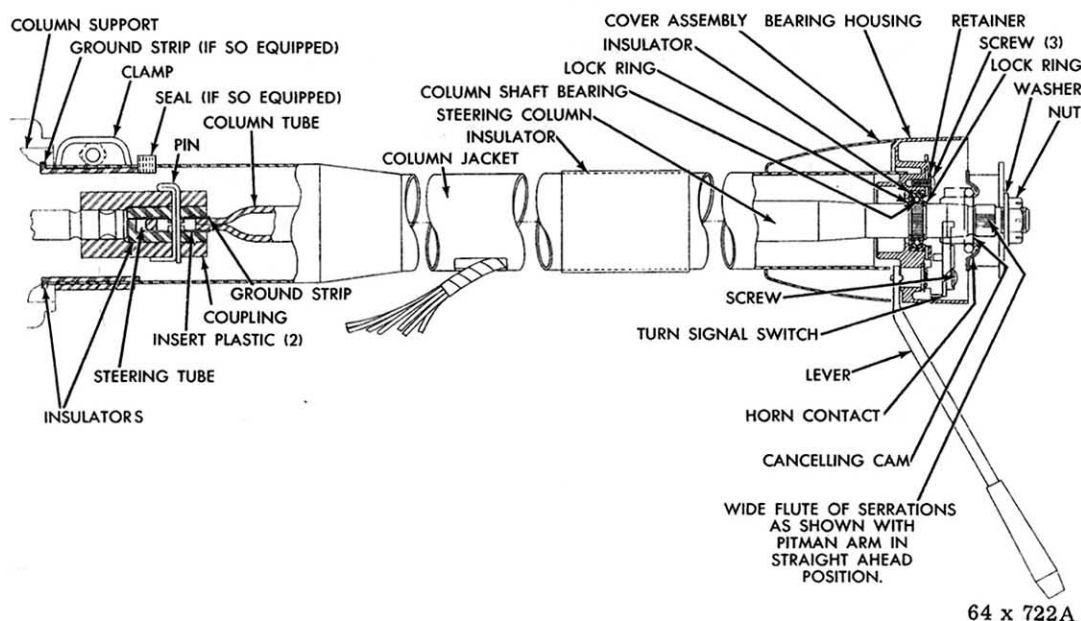

Fig. 14 - Steering Column Cross Section (Except adjustable steering wheel)
- (1) Disconnect the negative (ground) cable from the battery.
- (2) Compress and turn the horn button 1/4 turn counterclockwise to release the horn button from the retainer.
- (3) Disconnect the horn wire at the horn blowing switch.
- (4) Remove the three (3) screws and insulators attaching the horn ring and horn blowing switch to the steering column. Remove the horn ring and switch.
- (5) Loosen the steering wheel nut several turns and install the steering wheel puller Tool C-3428A and remove the steering wheel nut and steering wheel.
- (6) Remove the two bolts attaching the steering jacket tube clamp at the instrument panel and remove the clamp.
- (7) Disconnect the directional switch wiring at the multiple connector below the instrument panel.
- (8) Remove the screws attaching the floor plate seal to the floor panel and slide the seal up on the jacket tube.
- (9) Loosen the jacket tube clamp bolt and clamp at the steering gear housing (Fig. 14).
- (1) Enter the steering gear assembly into the engine compartment, position in place and install attaching bolts, flat washers, swivel washers and nuts, tighten finger tight.
- (2) Inspect the steering tube bearing for any damage incurred during removal from the steering tube.
- (3) Install the steering column tube, the two plastic inserts, rubber insulator, horn ground strap and coupling pin (Fig. 14).
- (4) Assemble the horn ground strap (copper) to the jacket tube support rubber insulator boot and install this assembly into the jacket tube.
- (5) Lubricate (powder lubricant) the end of the steering gear column jacket support and insulator boot to facilitate the installation and slide the jacket tube and insulator boot over the steering column tube and down against the shoulder on the jacket tube support. Position the clamp and tighten the clamp bolt securely.